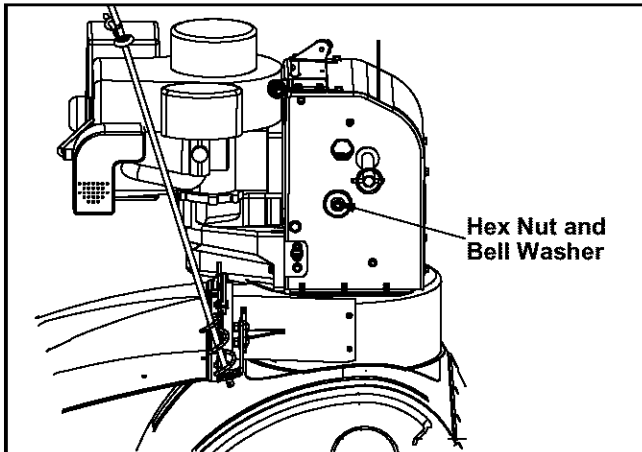

Figure 26
- Tip the snow thrower up and forward, so that it rests on the housing. See Figure 26.
- Using a wrench to hold the shaft, loosen, but do not completely remove, the hex nut and bell washer on left end of gear shaft. See Figure 26.